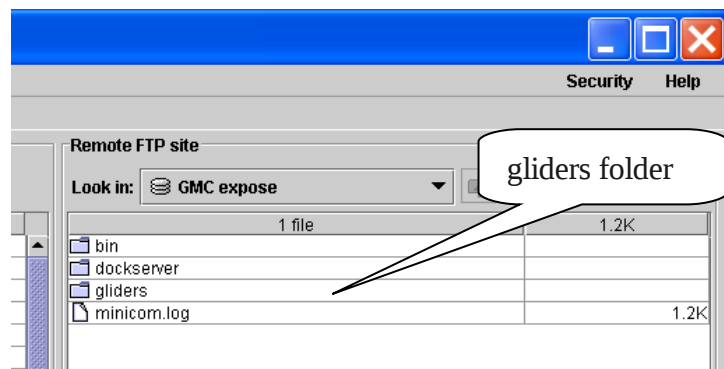

Figure 9-6. Dock Server file browser in GMC FTP application.
2. Double click the “gliders” folder in GMC FTP window’s right-hand file browser. Figure 9-6 shows the “gliders” folder.